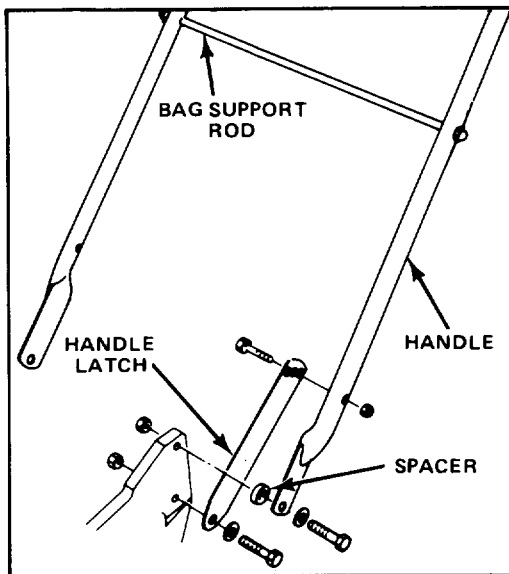

Figure 1
1. Mount handle to outside of mower housing, using top hole, with (2) 5/16-18 x 1-1/2" lg. cap-screws, washers, spacers, and nylon insert locknuts and shown in Fig. 1.
2. Mount handle latches to outside of mower housing, using bottom hole, with (2) 5/16-18 x 1-1/4" lg. cap-screws, washers and locknuts as shown in Fig. 1.
3. Secure handle latches to handle with (2) 5/16-18 x 1-1/2" lg. cap-screws and nylon insert locknuts (Fig. 1). Position locknuts on outside of handle.
4. Position bag support rod on handle to match length of grass bag. Slide bag support rod thru mounting holes in handle. Secure each end of rod with (2) cap locknuts (Fig. 1).